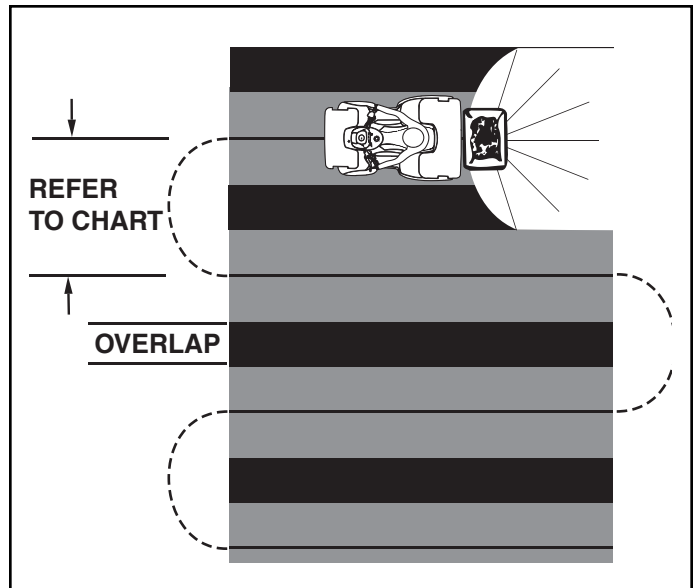

FIGURE 15
9. To insure uniform coverage, make each pass so that the broadcast pattern slightly overlaps the pattern from the previous pass as shown in figure 15. The approximate broadcast widths for different materials are shown in the application chart on this page.